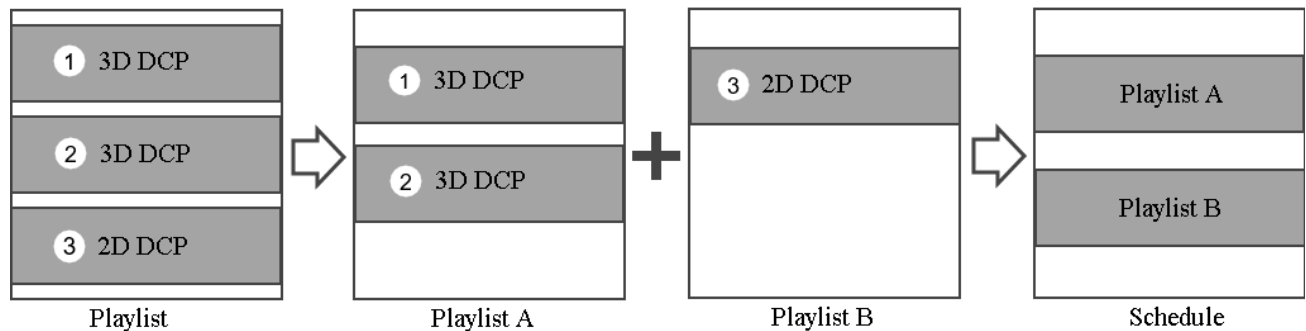

Figure 153: Separate playlists for 3D & 2D DCPs
- **Figure 153** explains a scenario where a playlist with both 2D as well as 3D content needs to be created for playback on the cinema LED Screen. In this case, Playlist A should be created with all the 3D DCPs & Playlist B should be created with all the 2D DCPs.